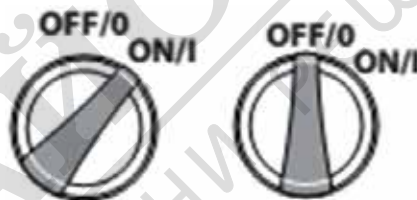

Fig.10
5. Set the power switch at the position "ON". (Fig.10)
2. Set the switch at the position " OFF". (Fig.10)
2. Turn off the power switch (the position " OFF"). (Fig.10)